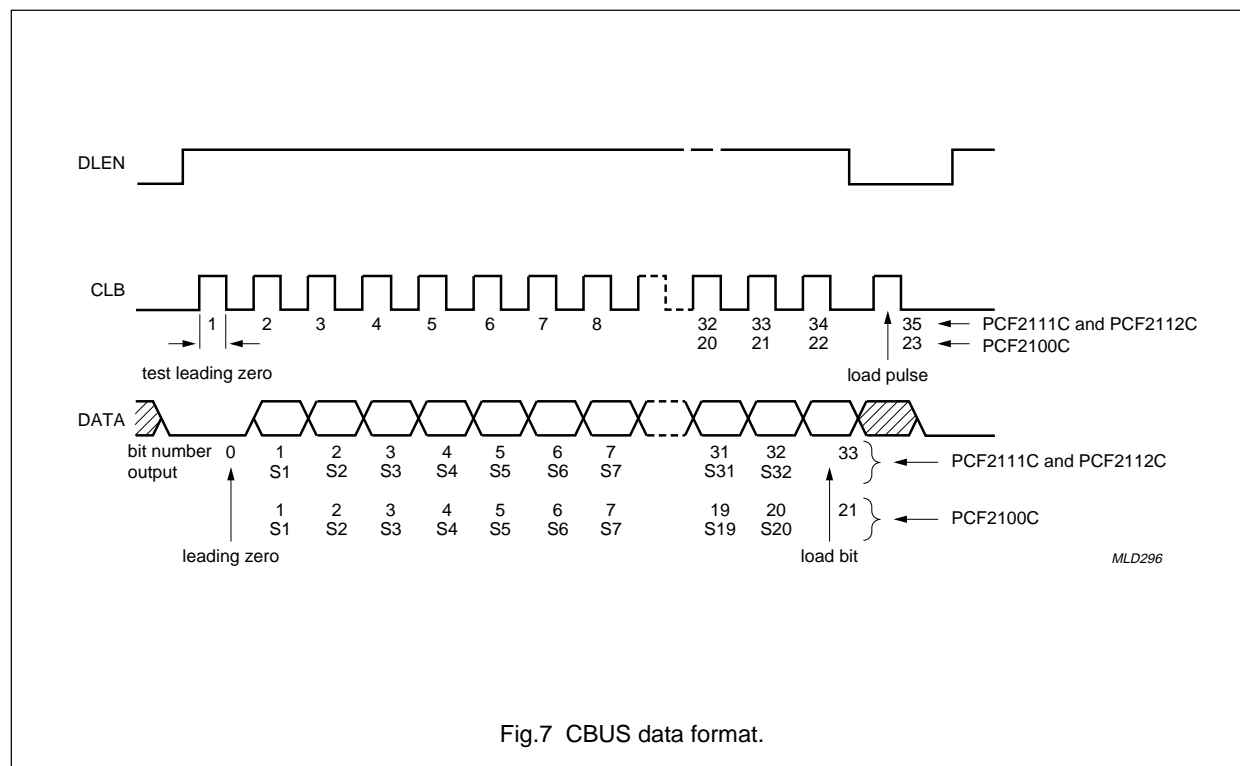

Fig.7 CBUS data format.
(1) Load pulse 23 for PCF2100C (see Fig. 7).
(2) Load pulse 35 for PCF2111C and PCF2112C (see Fig. 7).